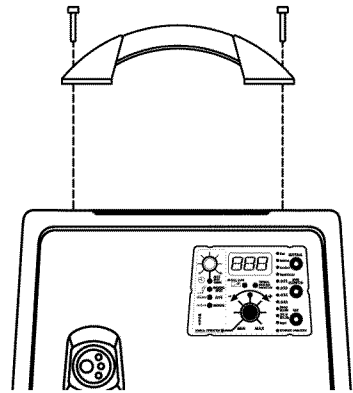

Figure 3. Handle Installation
3. With a flat tip screwdriver, securely tighten all four screws. (see Figure 3)